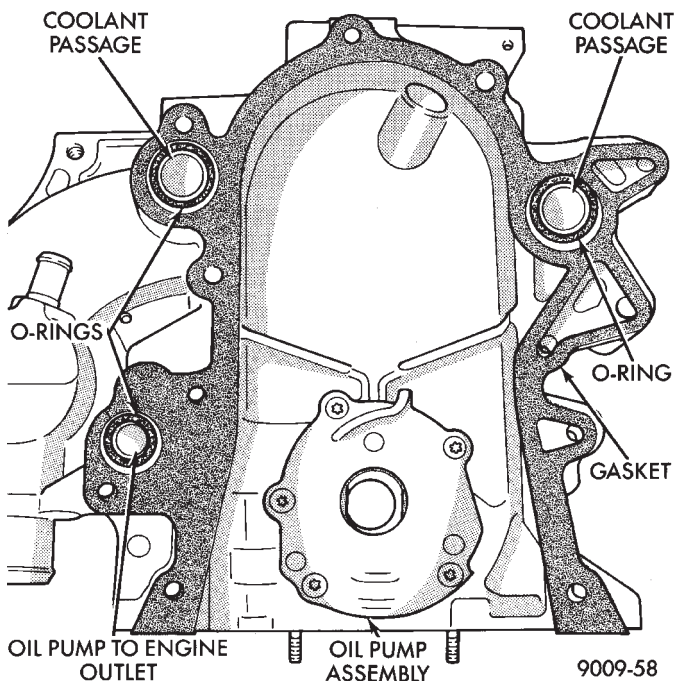
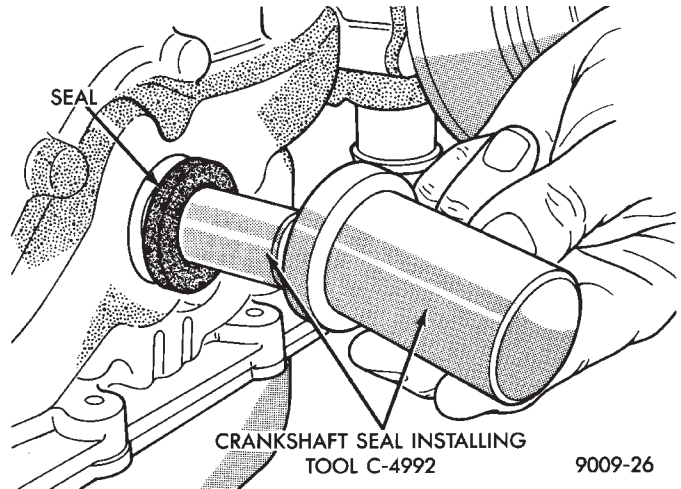
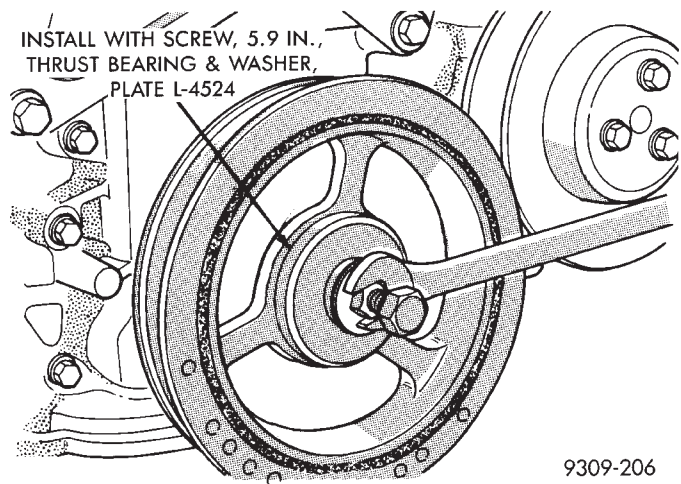

Fig. 6 Timing Chain Case Cover Gaskets and O-Rings
Fig. 7 Install Crankshaft Oil Seal
Fig. 8 Installing Crankshaft Pulley
(1) Be sure mating surfaces of chain case cover and cylinder block are clean and free from burrs. Crankshaft oil seal must be removed to insure correct oil pump engagement.
(2) Use a new cover gasket, O-rings. (Fig. 6).
(3) Rotate crankshaft so that the oil pump drive flats are vertical.
(4) Position oil pump inner rotor so the mating flats are in the same position as the crankshaft drive flats (Fig. 6).
(5) Install cover onto crankshaft. Make sure the oil pump is engaged on the crankshaft correctly or severe damage may result.
(6) Install chain case cover screws and torque to 27 N•m (20 ft. lbs.).
(7) Install crankshaft oil seal (Fig. 7).
(8) Install crankshaft pulley (Fig. 8).
- (1) Install new seal by using Tool C-4992 (Fig. 7).
- (2) Place seal into opening with seal spring towards the inside of engine. Install seal until flush with cover.
- (3) Install crankshaft pulley using plate L-4524. Thrust Bearing/washer and 5.9 inch screw (Fig. 8).
- (4) Install drive belt (Refer to Cooling System Group 7) for installation procedure.
- (5) Install inner splash shield and wheel.